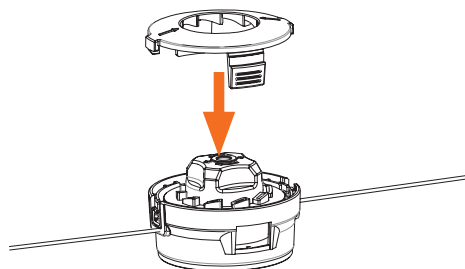

Figure 10
6. Attach the cover to the spool housing (see Figure 10).